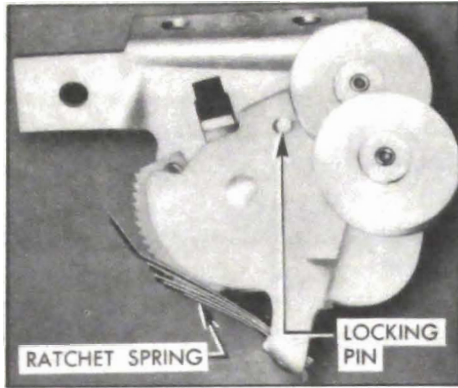

Figure 13-15—Cable Tensioner (Right)
5. Apply slight pressure to cable tensioner ratchet spring, then rotate pulley support plate until a $\frac{1}{8}$ " pin can be inserted through the holes in plate and bracket to remove spring pressure from the cables. See figure 13-15. Disconnect cables from drive shaft lever.